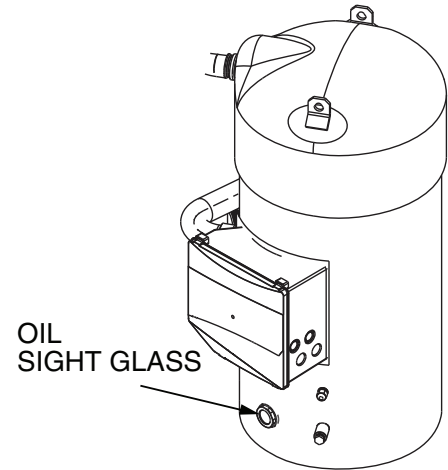

Fig. 39 — Sight Glass Location
5. Oil should be visible in the compressor sight glass(es). See Fig. 39. For unit sizes 010-090, an acceptable oil level is from $\frac{1}{8}$ to $\frac{3}{8}$ of sight glass. For unit sizes 100-150, an acceptable oil level is from $\frac{3}{4}$ to $\frac{7}{8}$ of sight glass. No oil should be removed unless the crankcase heater, if equipped, has been energized for at least 24 hours. Adjust the oil level as required. See Oil Charge section on page 60 for Carrier approved oils.